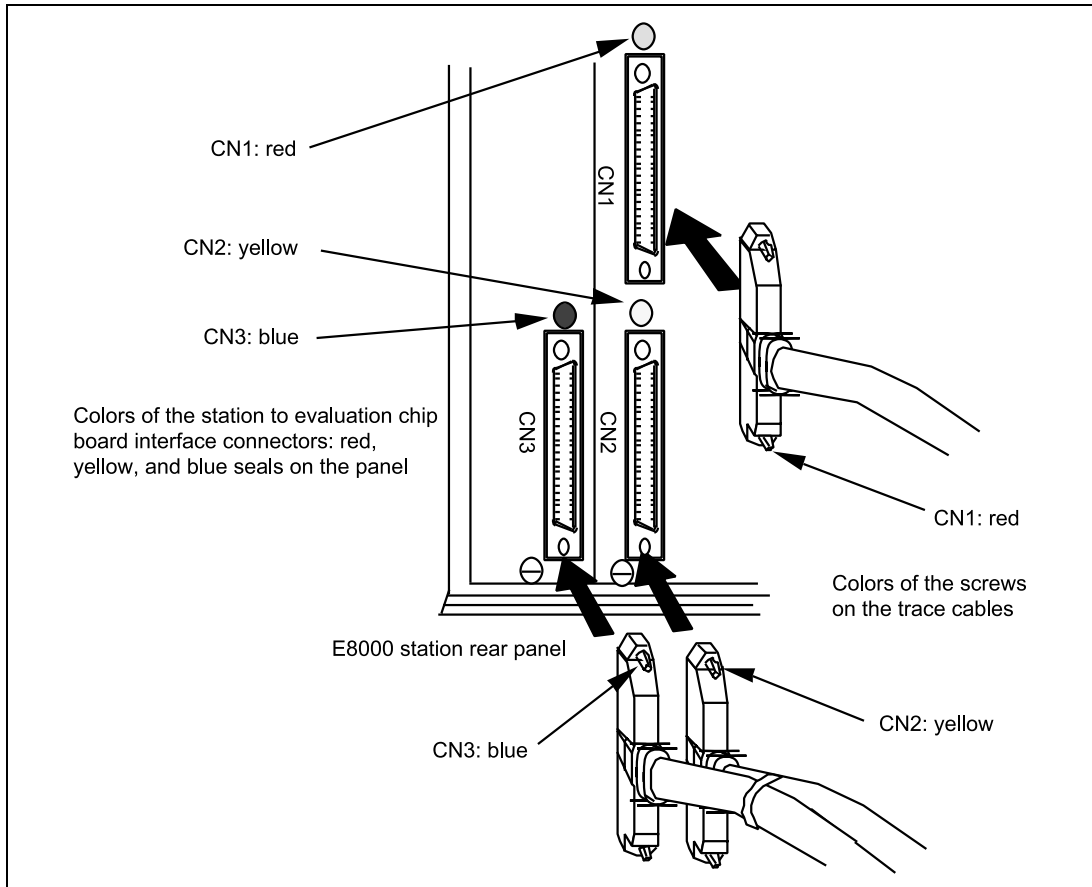

Figure 3.3 Connecting Trace Cables to the E8000 Station
3. Connect the trace cables into the station to evaluation chip board interface connectors (CN1, CN2, and CN3) on the E8000 station's rear panel. Confirm that the shape of the trace-cable plug matches that of the station to evaluation chip board interface connector before connecting. Also note which trace cable is connected to which E8000-station connector so that the other end of the trace cable is connected to the matching connector number on the evaluation chip board. After the connection is completed, alternately tighten the screws on both sides of the trace cable to prevent the upper or lower side of the trace cable from lifting off the connector. Figure 3.3 shows how to correctly connect the trace cables to the E8000 station connectors.